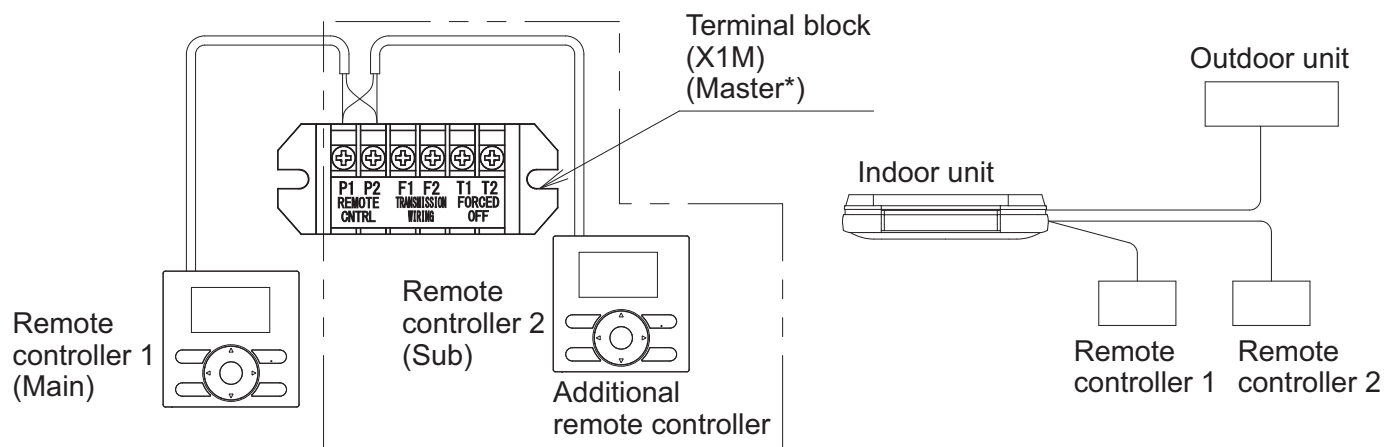

Fig. 46
- (1) Remove the control box cover according to the “8-3 WIRING CONNECTION METHOD”.
- (2) Carry out additional wiring from the remote controller 2 (Sub) to the terminals (P1·P2) for remote controller wiring on the terminal block (X1M) in the control box. (There is no polarity.) (Refer to Fig. 46)